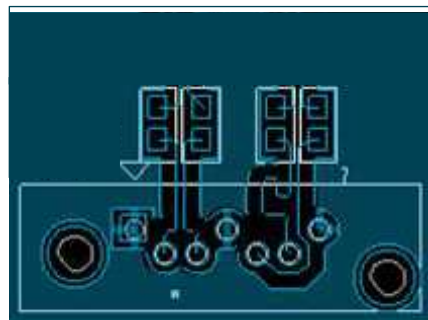

Figure 8-79. SATA Routing
2. Use the method pictured below in Figure 8-79 and Figure 8-80 to route to the SATA connector. This method results in lines that are still length matched, and still on just one single layer.